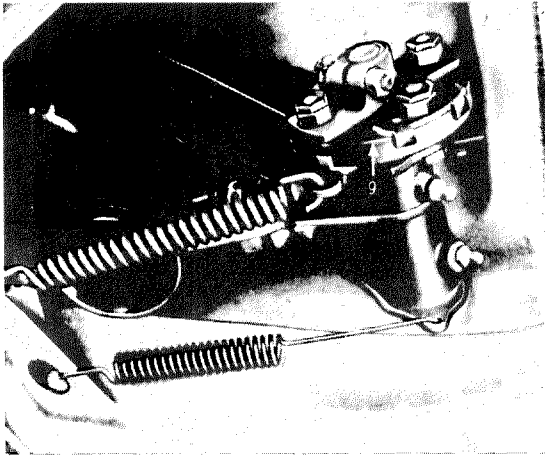

Fig. 29-5/2
version is represented by dotted lines. In the case of the 3rd version loosen the nuts (22) of the pull rod (19) for the compensating spring (18a) and detach the compensating spring at the shackle (17) of the relay lever (6) (Fig. 29-5/1).